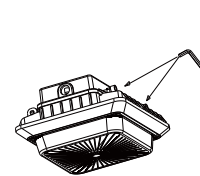

Figure 2-1
1. Disassemble the driver box cover by loosen the two screws on the driver box; Figure 2-1